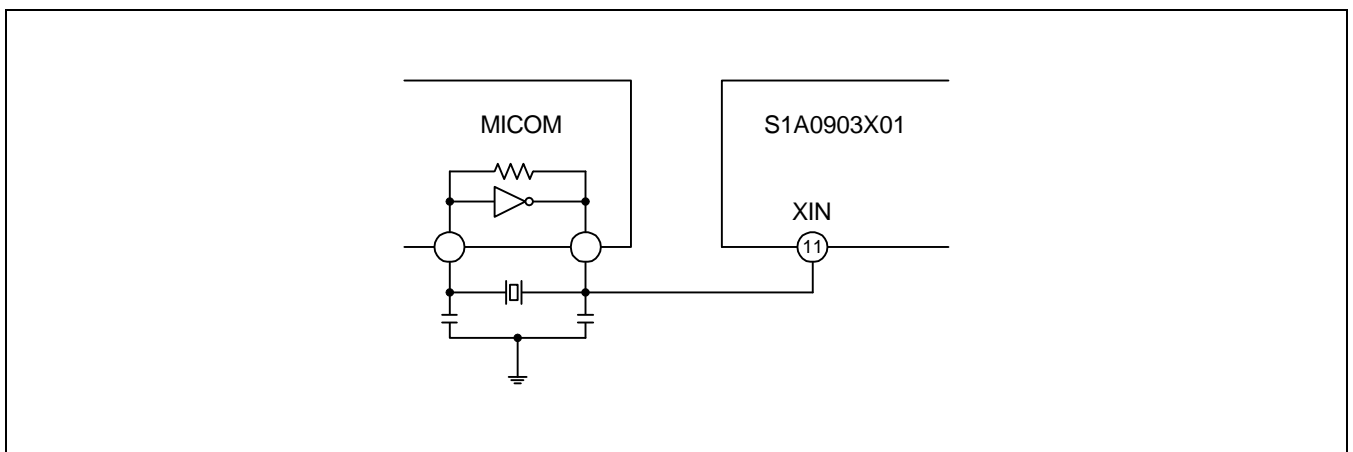

Figure 20. Connection X'tal for Micro-processor
4. Crystal can be selectable among 75kHz, 3.6MHz, 7.2MHz, 10.8MHz. The connection must be the same as Figure. 20 to share crystal for Micro-processor